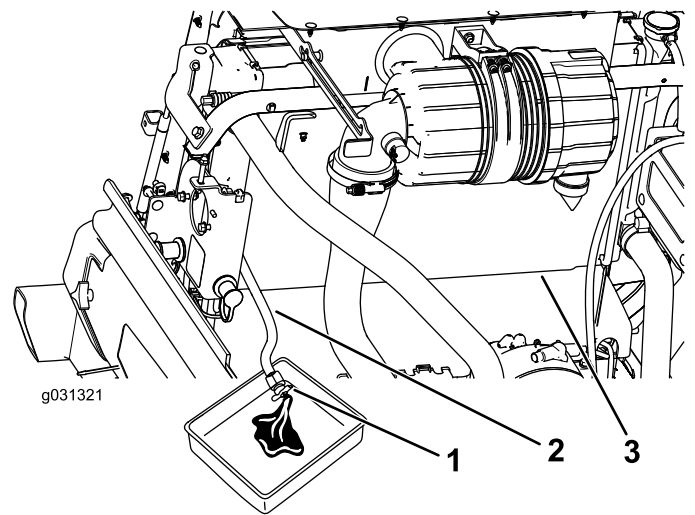

Figure 111
3. With the radiator drain hose placed in a drain pan, open the drain valve on the radiator hose and drain the fluid into a drain pan (Figure 111).